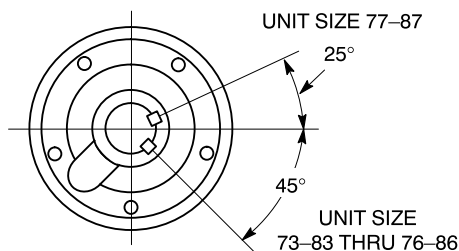

FIGURE 3 – UNIT SIZES 3 THRU 7
3.3 TRIPLE REDUCTION – INTERMEDIATE SHAFT (315) REMOVAL
- Remove the high speed head (30).
When removing and replacing the high speed head (30), rotate the high speed shaft (310) so that the key is in the relative position shown in Figure 3. This position allows the oil slinger (306) to clear the high speed gear (312) without damage.